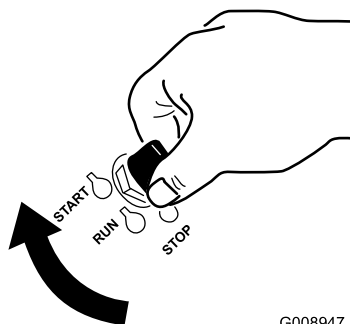

Figure 12
1. Turn the ignition key to the Start position (Figure 12). When the engine starts, release the key.
7. Turn the ignition key to the Start position (Figure 12). When the engine starts, release the key.